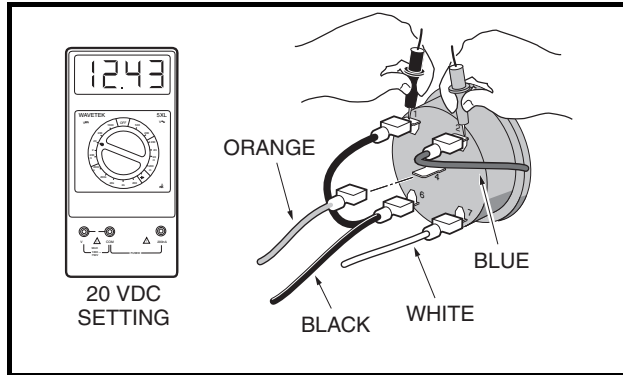

Figure 11-41 Fuel Gauge Voltage Test - Terminal 2
6. Set a multimeter to 20 volts DC and place the red (+) probe on the (2) terminal of the fuel gauge/hour meter where the blue wire (w25) is connected. Place the black (-) probe on the (1) terminal of the fuel gauge/hour meter with the black wire (w22) (**Figure 11-41, Page 11-37**).
8. Turn the key switch ON. The voltage reading should be the same as the battery voltage reading recorded earlier. If not, check the continuity of the blue and black wires (**Figure 11-41, Page 11-37**).